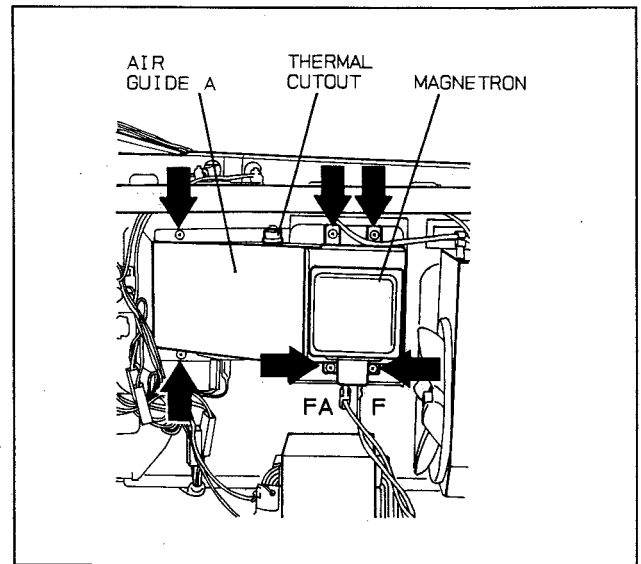

Fig. 16
(B) Remove 2 screws holding air guide A. (Fig. 16)
(D) Remove 4 screws holding the magnetron. (Fig. 16)
When connecting 2 filament lead wires to the magnetron terminals, be sure to connect the lead wires in the correct position. The lead wire of high voltage transformer should be connected to "F terminal" and the lead wire from high voltage capacitor should be connected to "FA terminal". (See Fig. 16)